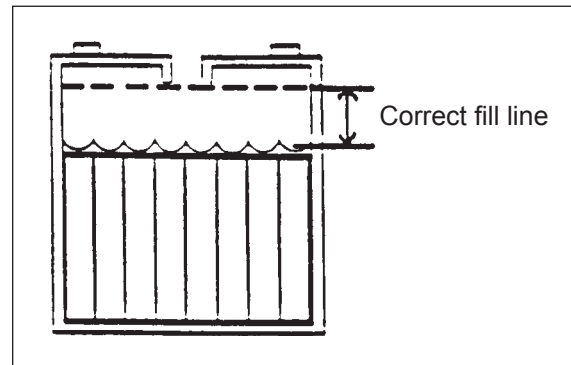

Figure 11
1. Keep the electrolyte at the correct level. The correct level is between 1/4" below the bottom of the tube in each cell and above the tops of the plates. Check the level of the electrolyte each time you charge the batteries. See figure 11.